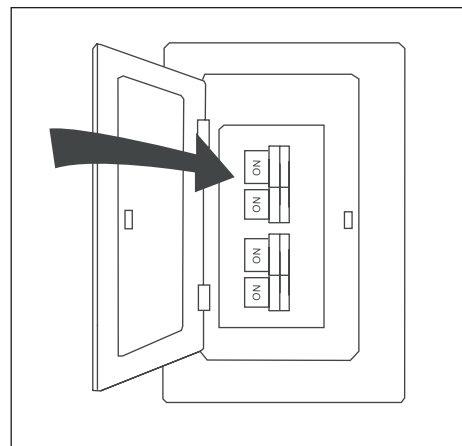

Figure 4.8
8. Turn on power to fan at breaker box and the wall switch. Assembly is complete (Figure 4.8).